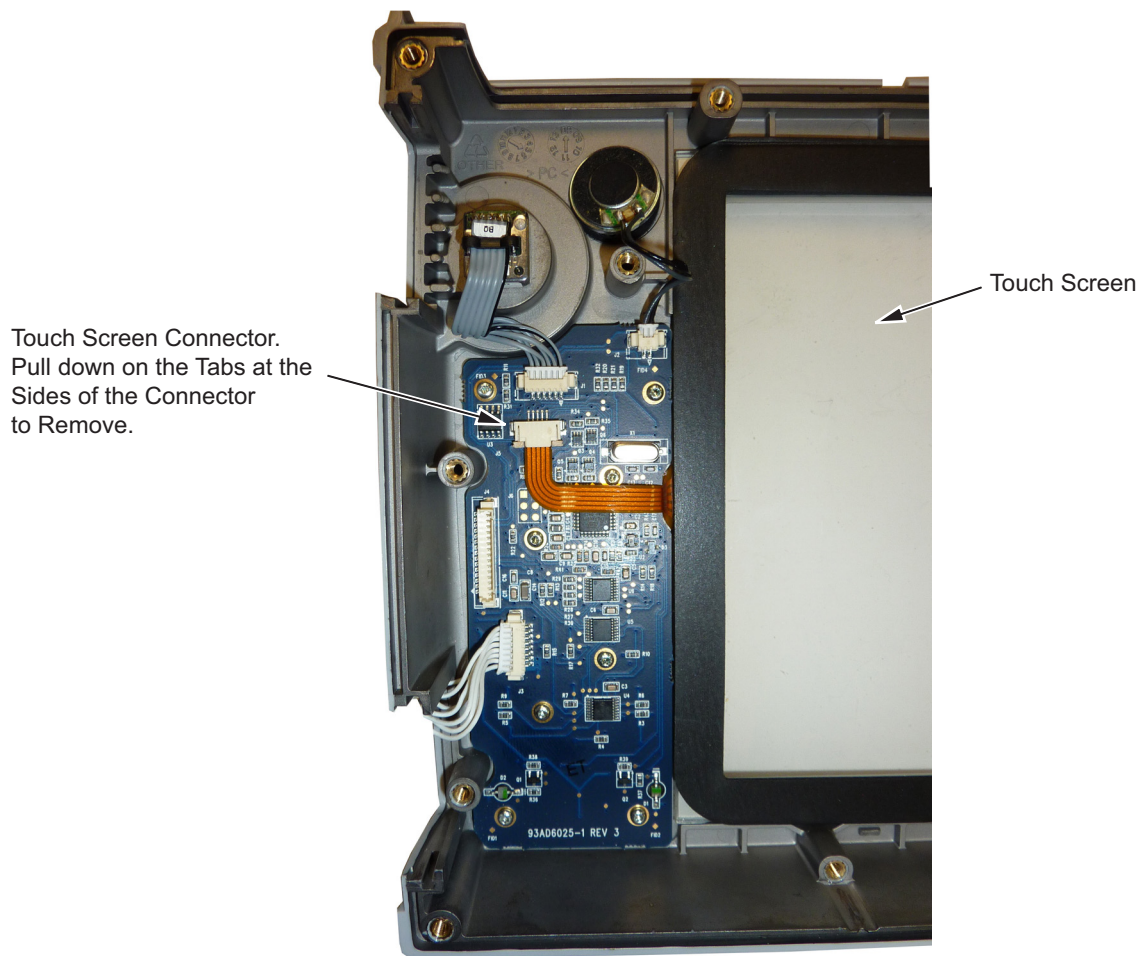

Figure 6-16. Replacing the Touch Screen
4. Remove the touch screen flex circuit cable from the keypad PCB by pulling the tabs on each side of the connector away from the connector and in the direction of the flex circuit. Refer to Figure 6-16.